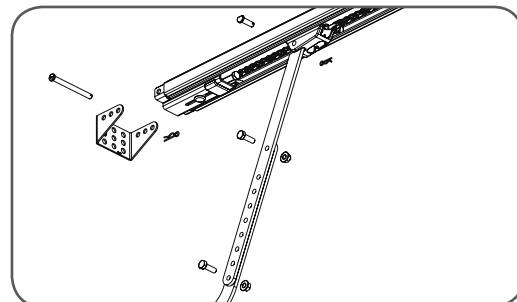

fig 18
- Attach the C-Rail assembly to the wall bracket with the 90mm long clevis pin and secure with the supplied snap pin. (**Fig. 18**)
- Attach the bracket and C-Rail with supplied pins (**Fig. 18**).